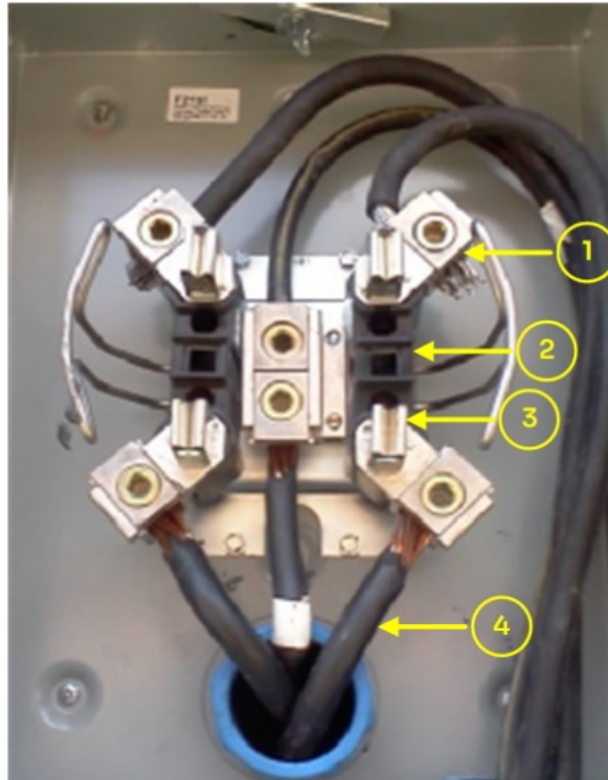

Figure 15. Existing meter socket in good condition.
A meter socket in good condition should have (1) tight conductor connection with no corrosion, (2) insulation blocks not cracked or broken, (3) jaws that tightly grip the meter stabs with no gaps, pits, or corrosion, and (4) conductor insulation intact and not frayed or cracked. See Figure 15.